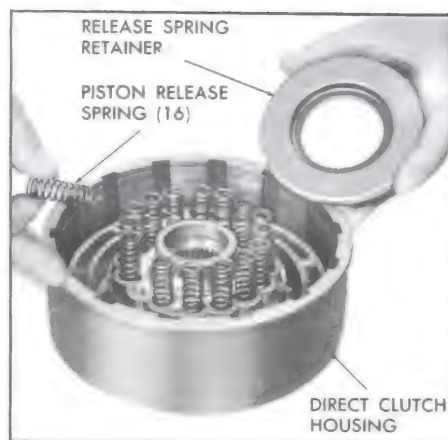

Figure 5-638
5. Install sixteen (16) springs into the piston. See Figure 5-638.